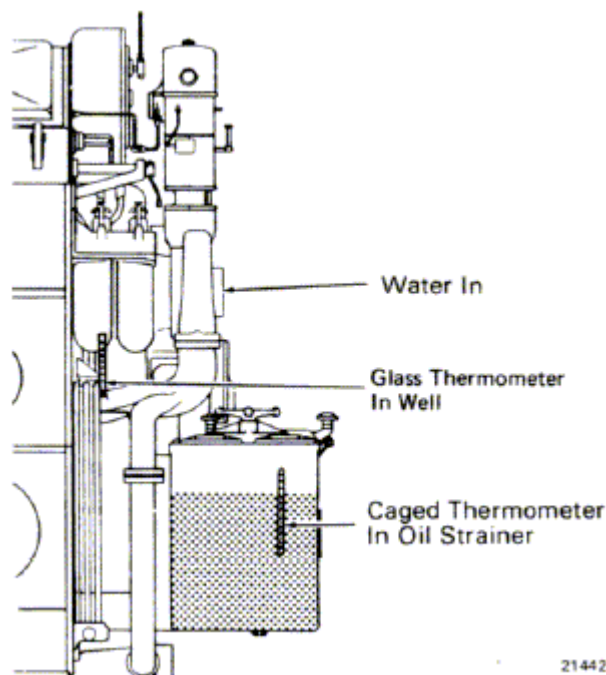

Figure 1. Thermometer Locations
1. To obtain water inlet temperature (out of oil cooler), locate the thermometer well in the water pump discharge elbow, as shown in Figure 1, and fill it with engine oil. Place a tube-type thermometer into the well. On later locomotive models equipped with electronic sensors, readings can be taken from the locomotive computer display.
2. To obtain temperature of the oil into the engine (out of oil cooler), remove the square cover from the engine mounted lube oil strainer and hang a caged thermometer bulb in the overflow compartment of the strainer housing. Ensure that the thermometer bulb is well below the surface of the oil and is kept submerged while readings are taken, as shown in Figure 1. On later locomotive models equipped with electronic sensors, readings can be taken from the locomotive computer display.